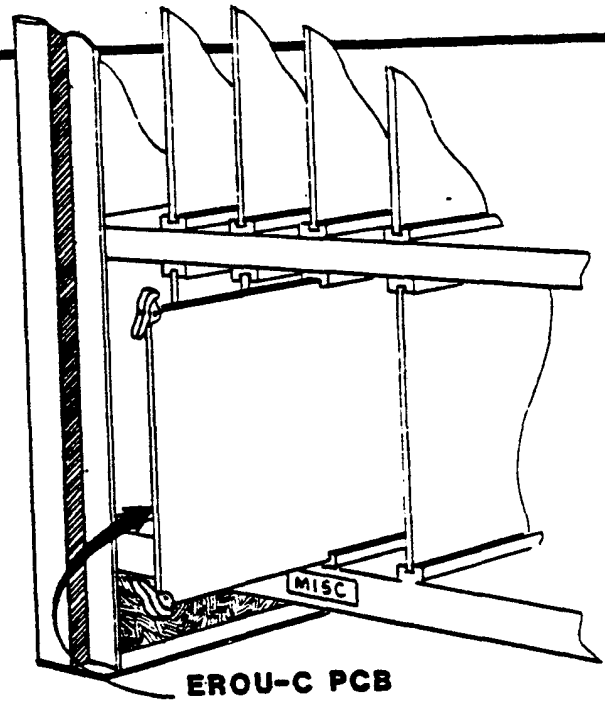

FIGURE 5-3
2.05 Insert the EROU-C PCB in the Miscellaneous (Misc-1) slot in the KSU. (Refer to Figure 5-3).